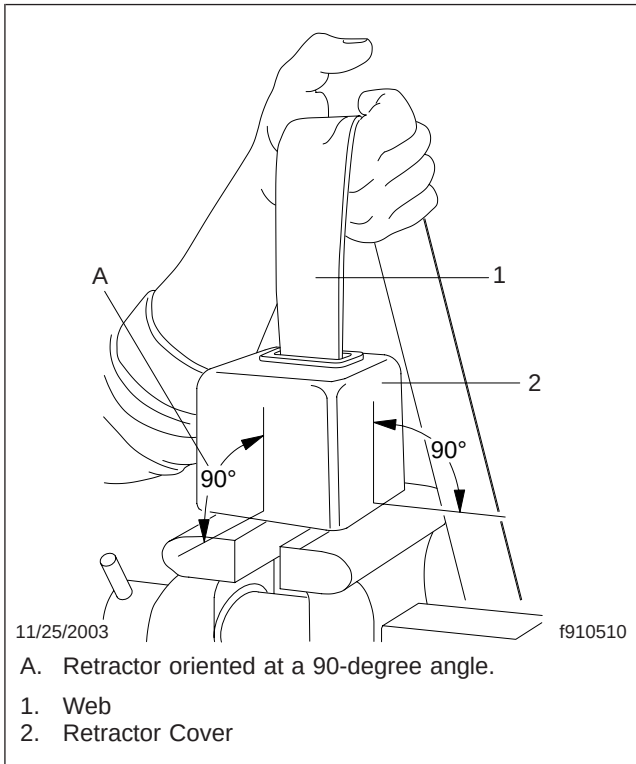

Fig. 3, Place the Retractor in a Vice
1. Clamp the retractor in a vice at a 90-degree angle; see Fig. 3.